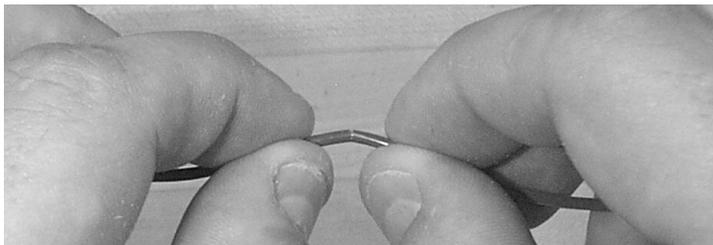

Figure 13 – Flex and separate the tube at the score mark.
4.14 Grasp the tube on both sides of the score mark and gently flex to separate the tube (Figure 13).